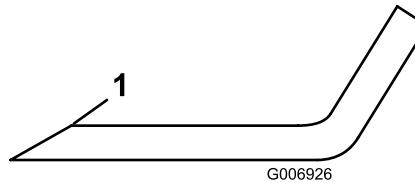

Figure 34
1. Use a file to sharpen the cutting edge at both ends of each blade (Figure 34). Maintain the original angle. The blade retains its balance if you remove the same amount of material from both cutting edges.